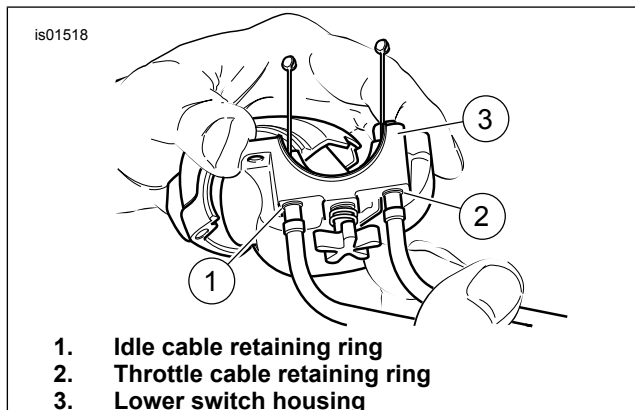

Figure 7. Install Cable to Switch Housing
2. See Figure 7. Push the throttle cable housing and retaining ring into the larger hole of the switch housing, located in front of the tension adjuster screw.